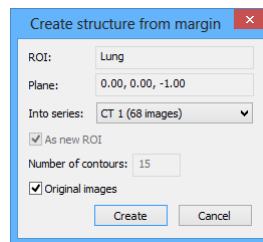

Figure 275 – Create structure from margin dialog
8. To create a new ROI from the generated margin, click the **Make new ROI...** button. The **Create structure from margin** dialog (see Figure 275) is then displayed in which you proceed as follows: